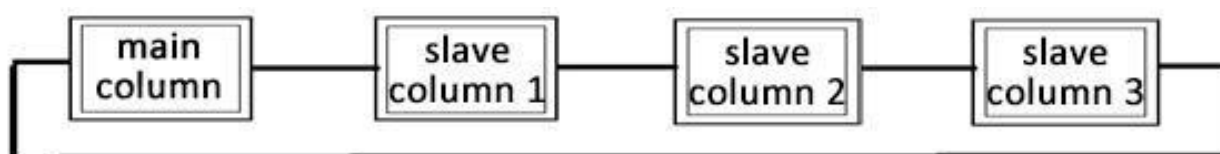

Fig. 9
- Power on: Connect all 4/6 columns with communication cable according to Fig. 9, 10, turn the Mode Selection knob to PAIR or ALL mode, and power on main column and all slave columns. LCD screen will show work interface after successful connection.
Please make sure that you have connected all communication cables according to Fig. 9 and 10 before operation.